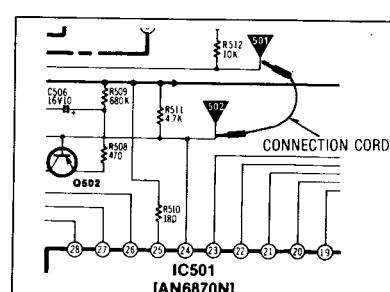

Fig. 24
- Connect a wire between TP501 and TP502 terminal (See fig. 24).